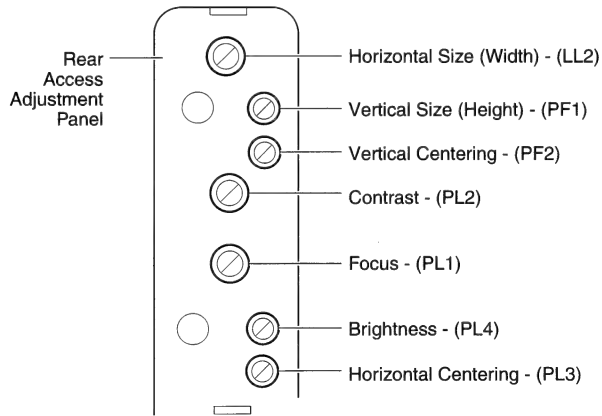

Figure 2 Service Panel
Video adjustments may be necessary after you replace the CRT or the power/sweep board. All video adjustments (except the tilt adjustment) are made from the service panel at the back of the computer under the service panel door (see Figure 2).
4. Using a plastic flat-blade tweaker, adjust contrast pot PL2 (see Figure 2) so the luminance at the center of the screen reads at the high end of the black area between 10 and 11 on the light meter.
6. Set the light meter for the 2–10 range. Using a plastic hex alignment tool, adjust brightness pot PL4 (see Figure 2) so the luminance at the center of the screen reads at the top end of 7 on the light meter.